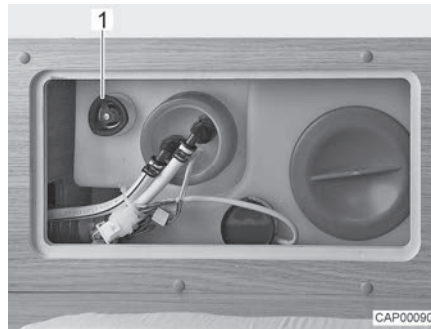

Fig. 75 Water tank with rotary handle
- Turn the rotary handle (Fig. 75,1) on the water tank in an anticlockwise direction as far as possible beyond the resistance to fully open the drainage opening.